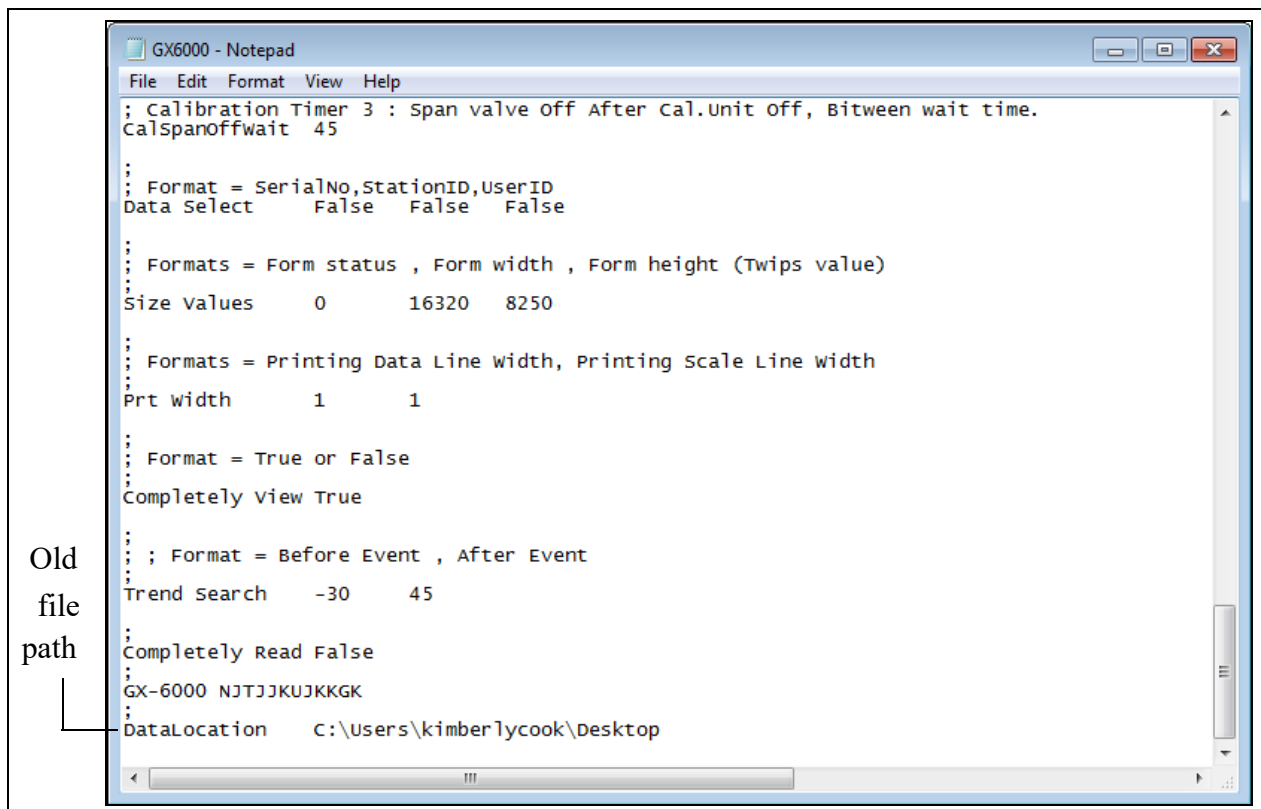

Figure 3: GX6000.ini File with Original Path
5. Scroll down to the very last line. This line is the Data Location path. An example of the path created by the program is shown in Figure 3.